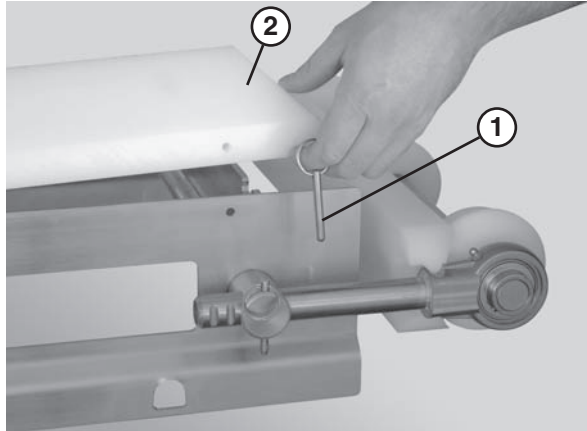

Figure 44
1. Remove the pull pins (**Figure 44, item 1**) that connect the guides (**Figure 44, item 2**) to the frame.